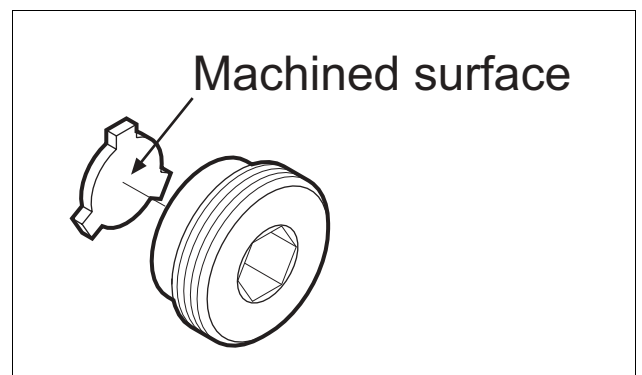

Fig. 29 Check Valve Assembly
- Note!** If using a normal hex key to install the check valve, this may cause the washer on the back side of the check valve to fall off and disfunction the check valve. If this happens, make sure that the machined surface of the washer is facing the check valve when reassembling. If a little grease is applied to the washer, it will stick to the check valve when reassembling. *See Fig. 29.*
8. Install the pilot valve (2) and tighten the fasteners (1)